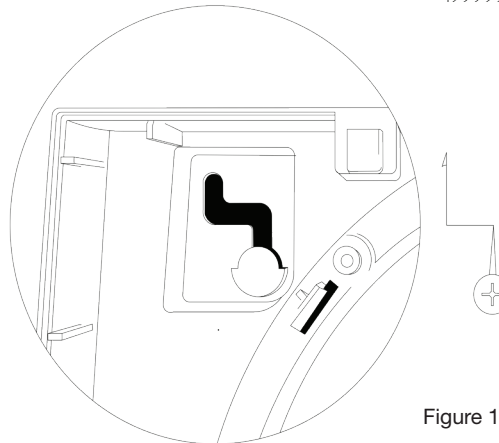

Figure 1
- Hang the heater on the screws and move the product through the Z locking shape shown in figure 1. Once the product is in position mark the two holes in the bottom legs (C&D), and then remove the heater.